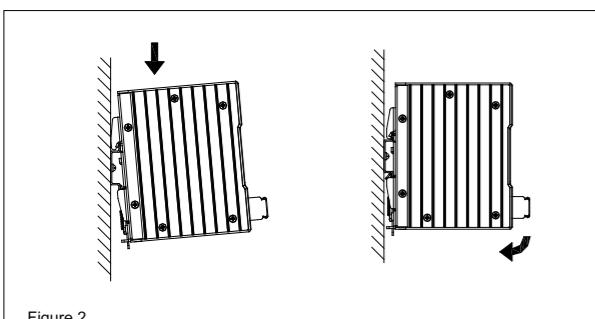

Figure 2
3. Montage (Abb. 2)
Einrasten des Geräts in DIN-Schiene, wie in Abb. 2 dargestellt:
3. Mounting (Fig. 2)
Each device is delivered ready to install. Snap on the DIN rail as shown in Fig. 2: